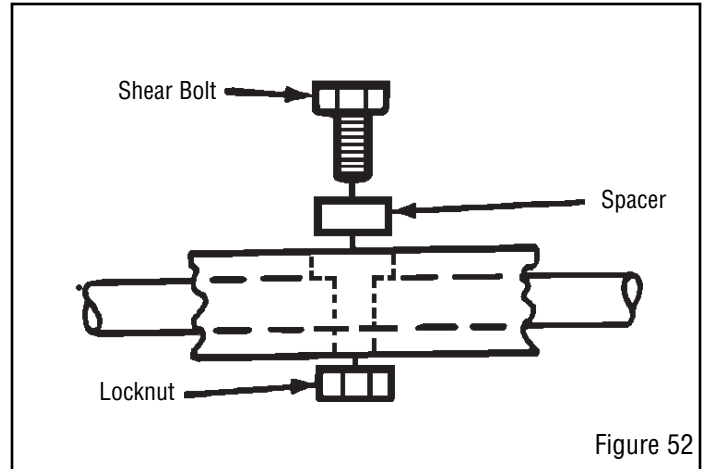

Figure 52
2. Align the hole in the auger with the hole in the auger shaft. Install new shear bolt, spacer and locknut found in the toolbox located on the belt cover (see Figure 52).